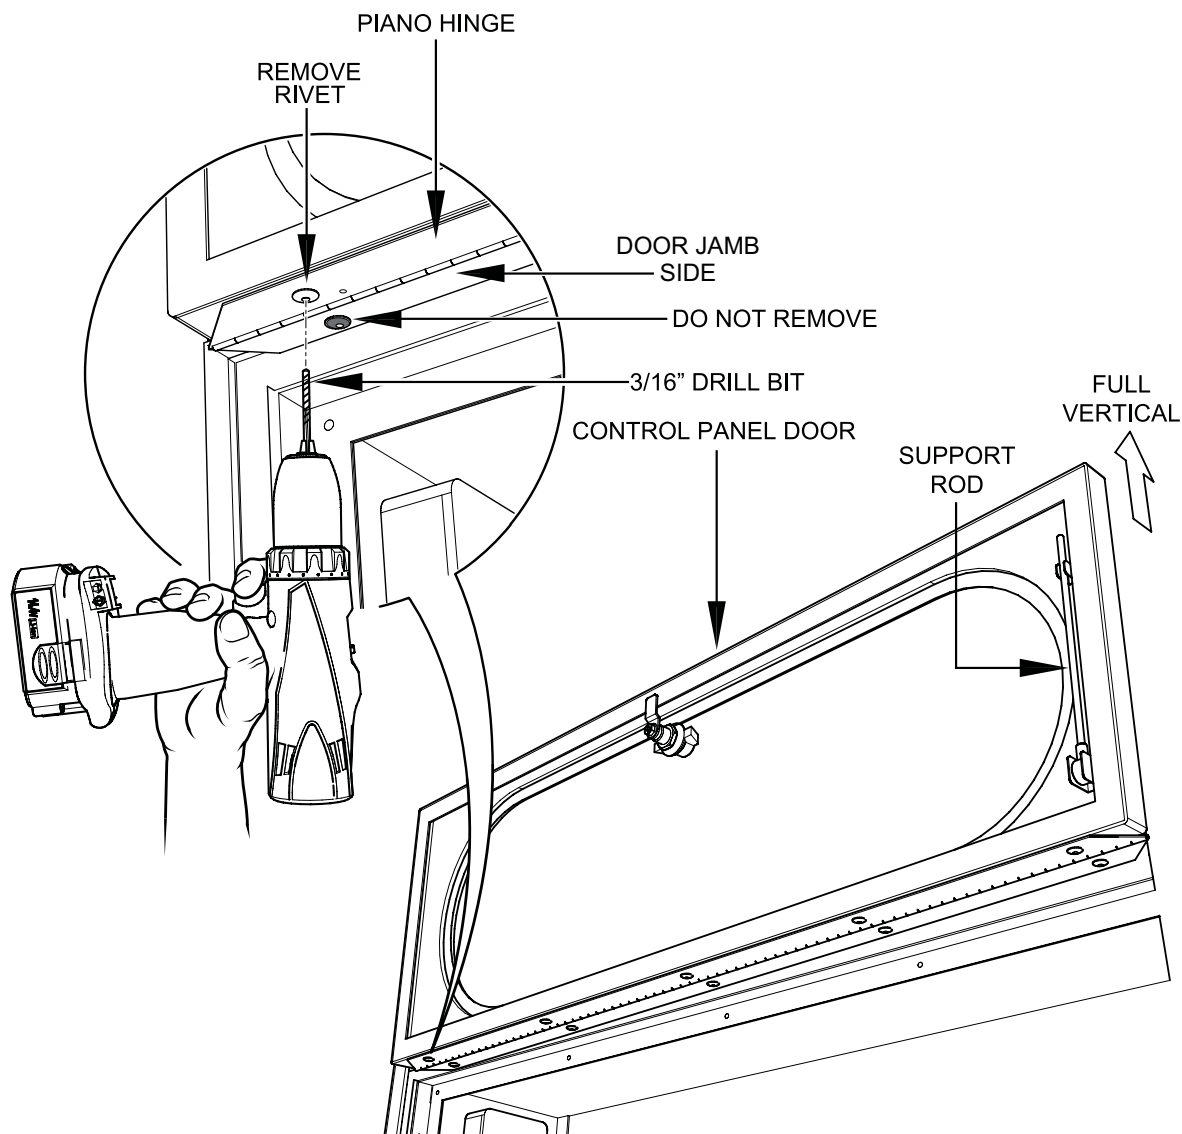

Figure 2. Door Removal
2. Next, lift the door support rod (Figure 2) from its holder and continue to open the door all the way to the maximum vertical position.
4. Using a 3/16-inch drill bit, remove (drill-out) the 5 existing rivets from the piano hinge as shown in Figure 2